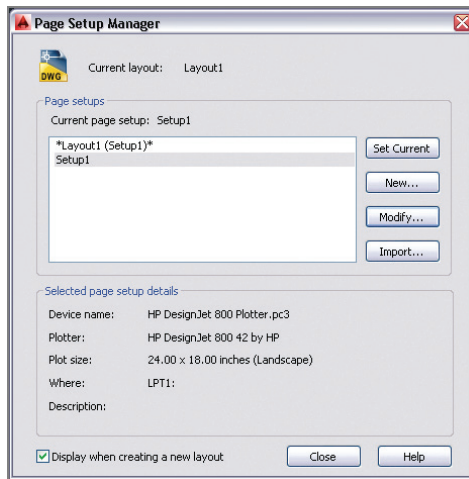

FIGURE 14.28 Saving a page setup for use in the next layout
- The Page Setup Manager dialog box now lists Setup1 as a saved page setup. Select Display When Creating A New Layout (see Figure 14.28). Click the Set Current button, and then click Close.